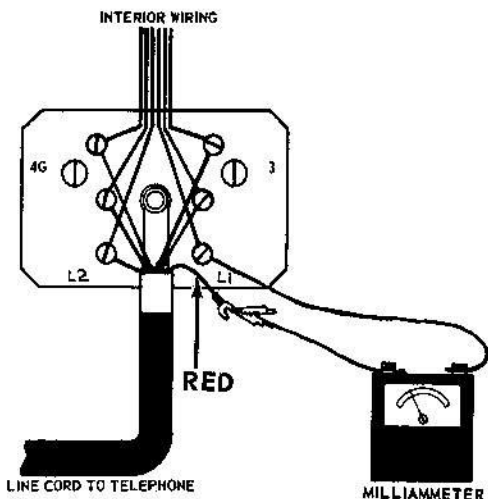

Figure 12. Line current testing at subscriber's premises.
9.1 Without assistance from the central office. Loosen the connecting block cover screw, remove the connecting block cover, and disconnect the telephone RED lead. Connect a milliammeter between the RED lead and the connecting block terminal L1 so that the milliammeter is in series with the line (see figure 12). Take the handset off the cradle and vary the loop compensator until the milliammeter reads 60 milliamperes.